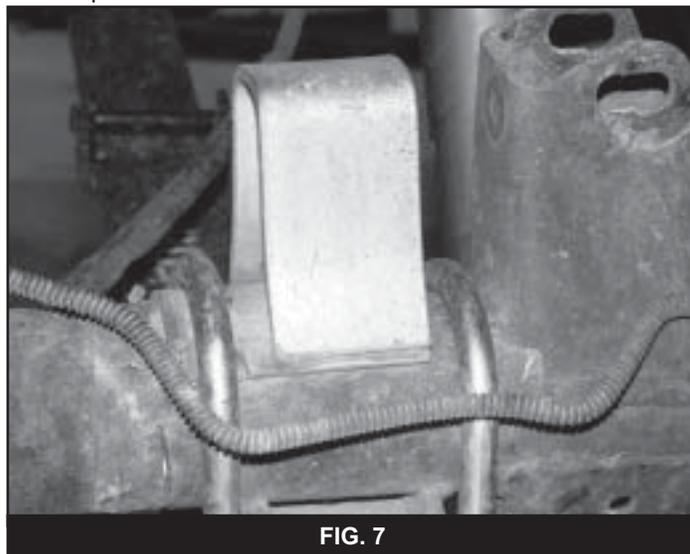

FIG. 7
19. Clean the spring mounting surface on the axle and lower the axle to the spring. Be sure that the thick end of the shim is toward the front of the vehicle. Position the new bump stop on the axle tube and slide the new u-bolt over the tab on the bump stop. Fasten the u-bolts with 1/2" high nuts and 1/2" SAE washers. Snug hardware. Final u-bolt torque will be down with the vehicle weight on the springs. (Fig 7)